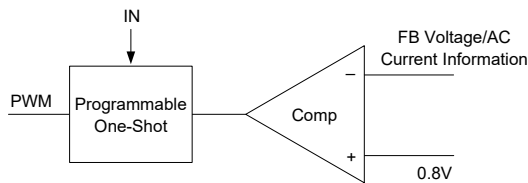

Figure 4. Simplified Control Schematic of AOZ2153PQI-04
The simplified control schematic is shown in Figure 4. The high-side switch on-time is determined solely by a one-shot whose pulse width is inversely proportional to input voltage (IN). The one-shot is triggered when the internal 0.8V is higher than the combined information of FB voltage and the AC current information of inductor, which is processed and obtained through the sensed lower-side MOSFET current once it turns-on. The added AC current information can help the stability of constant-on time control even with pure ceramic output capacitors, which have very low ESR. The AC current information has no DC offset, which does not cause offset with output load change, which is fundamentally different from other V^2 constant-on time control schemes.